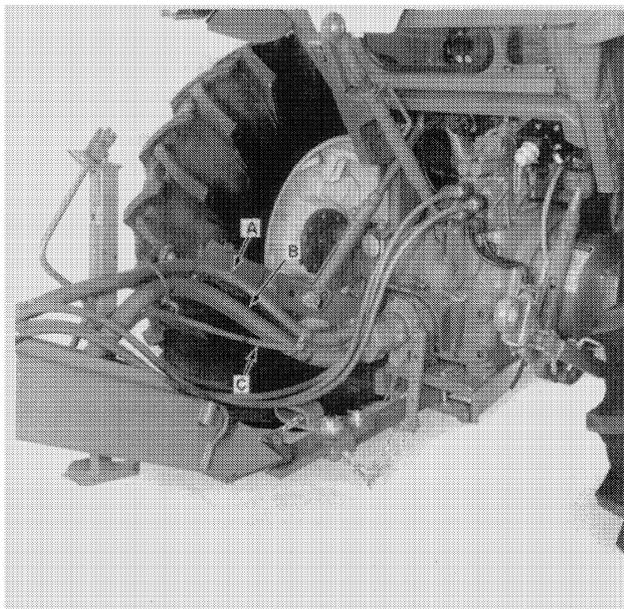

FIGURE 1-6
1. Remove the three hydraulic oil lines, A, B, and C, Figure 1-6.